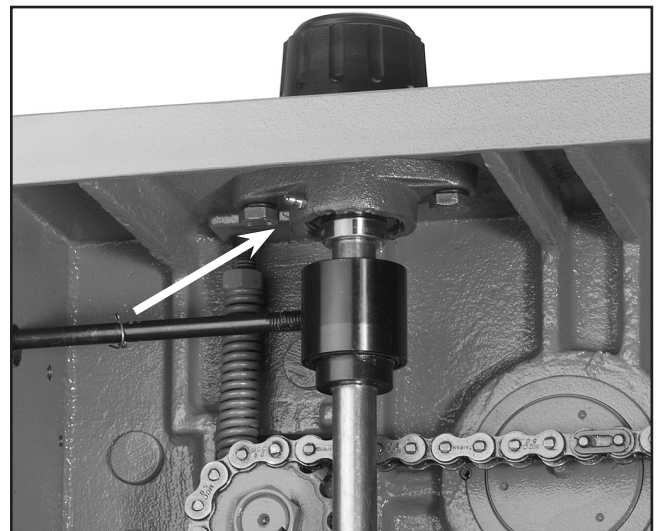

Figure 20. Micro-adjust grease fitting.
1. **Micro-Adjustment Knob** — Once a week for heavy use; once a month for moderate use. See **Figure 20** for grease fitting location.